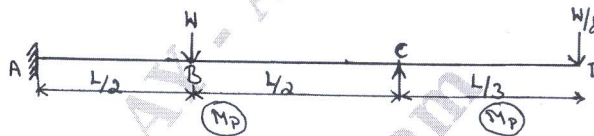

Fig.Q.2(b)
b. A propped cantilever ABCD is loaded as shown in Fig.Q.2(b). Find the collapse load if the beam is of uniform cross section. (10 Marks)